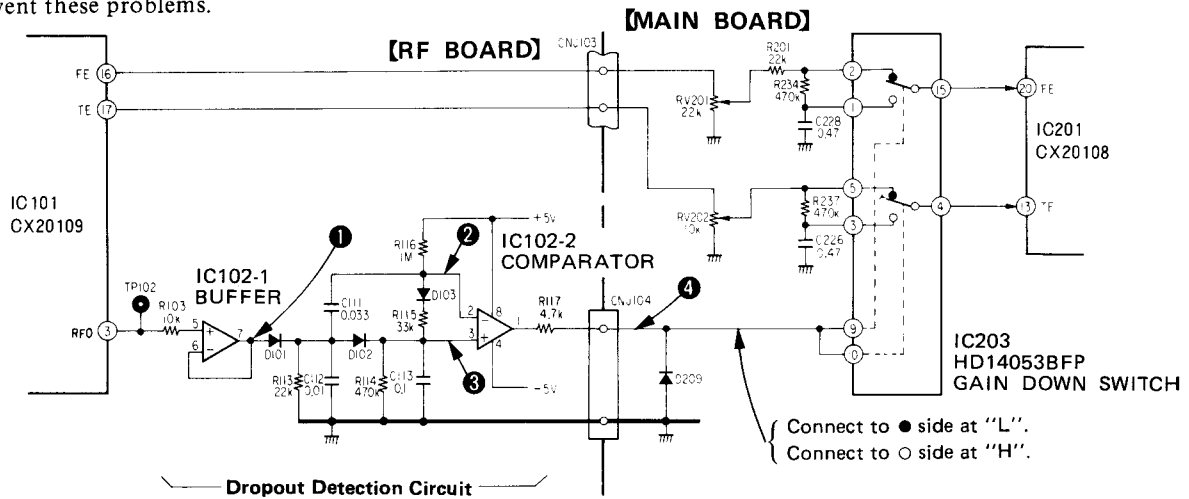

Fig. 1 Dropout Detection Circuit and Gain Down Switch Circuit
Next the operation will be explained. Please look at Fig. 1. During PLAY, the RF signal output from IC101 pin ③ is applied to D101 via IC102-1 buffer. This RF signal is envelope wave detected at D101. Therefore, during normal operation (no bubbles or scratches on the disc) D101 cathode side has a DC component. Bias is applied via D103 and R115 so that IC102-2 comparator output is low at this time. D102, R114 and C113 perform the role of adjusting auto bias relative to RF signal level fluctuation and also act as a smoothing circuit so that IC102-2 bias dose not change even if there is dropout.